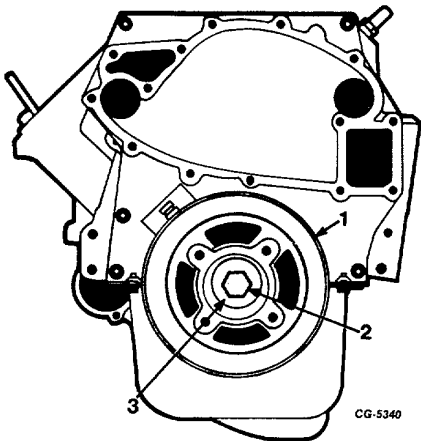

Fig. 47
52. Remove crankshaft damper bolt and washer. Figure 47.